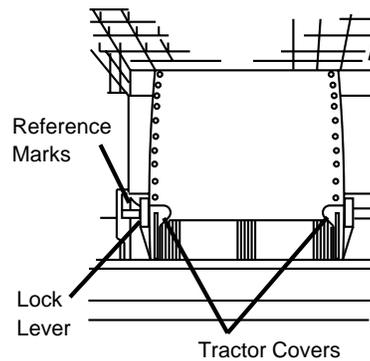

Figure 9-7. Model 602 Paper Edge Reference Marks
7. Close the tractor covers, and adjust the left tractor to properly position the edge of the paper as shown in Figure 9-7.